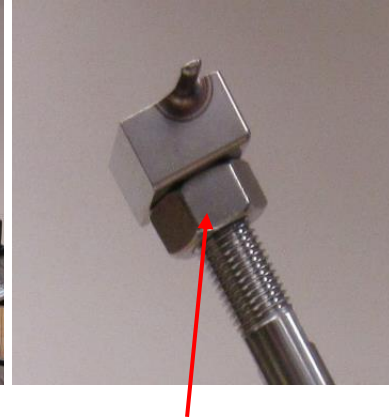

Figure 10: Jam nut
- Loosen the jam nut holding the upper jaw and unscrew jaw. (Fig 10)